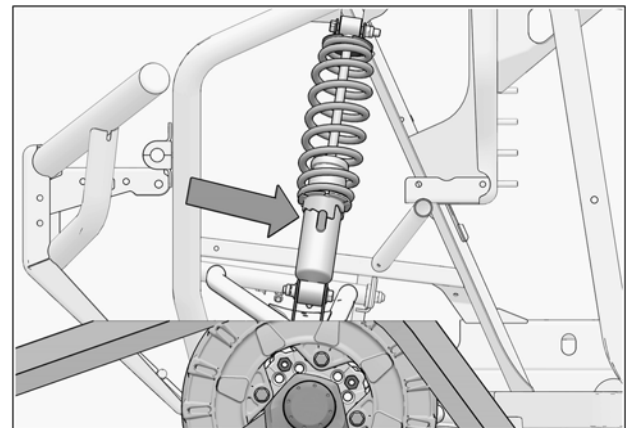

Fig. 31
1. Verify suspension settings. If the shock absorbers are adjustable, adjust them to the stiffest setting to allow for maximum clearance between the System and the vehicle's fenders. See Fig. 31